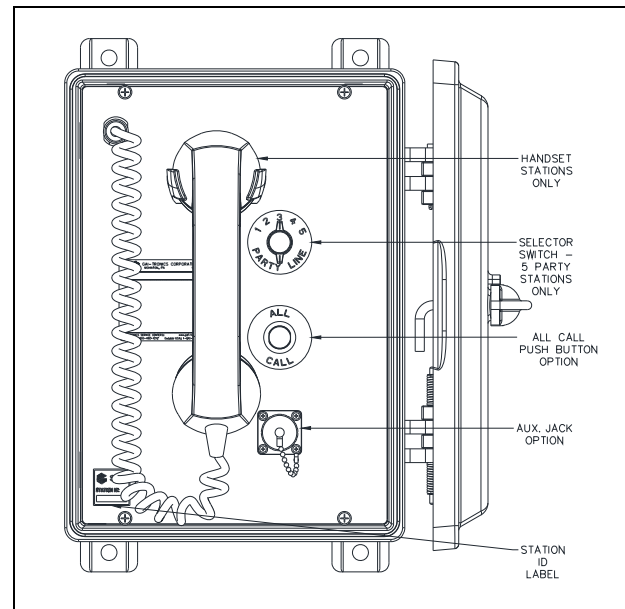
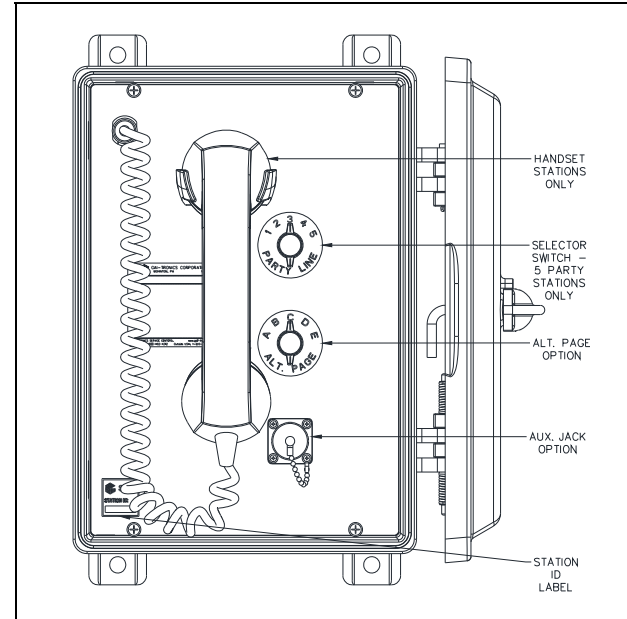

Figure 11. All-Call Button Option
Figure 12. Alternate-Page Switch Option
Use the ALL-CALL option button to page an alternate destination that has been programmed for the station (see Figure 11). The All-Call option must be software configured for the SP2 station. To initiate a page using the ALL-CALL feature:
Use the ALT-PAGE option selector switch to page one of five alternate destinations that have been programmed for the station (see Figure 12).
1. Attach the headset assembly to the auxiliary jack on the station (see Figure 11 or Figure 12).